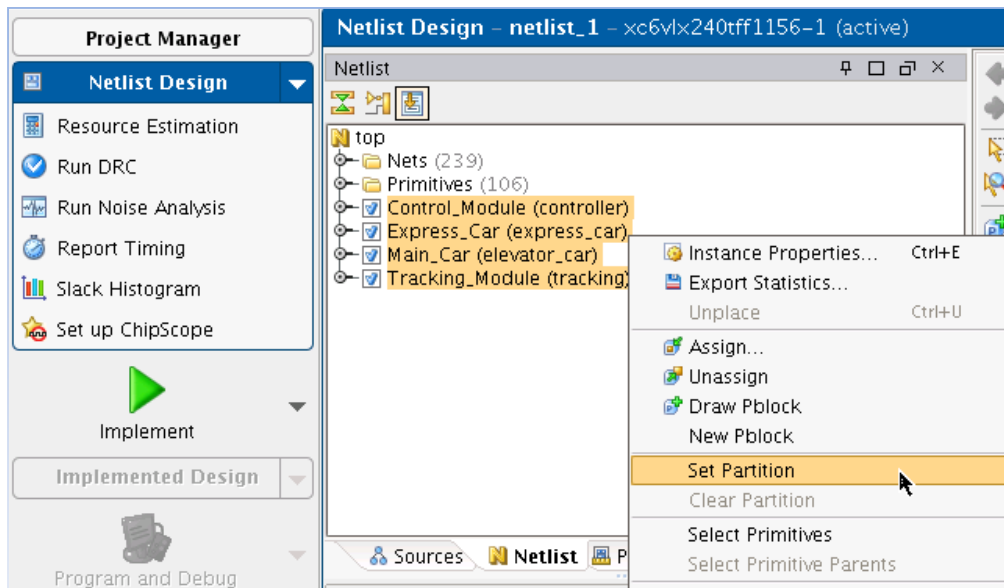

Figure 10: Setting Partitions in PlanAhead
3. Select the module instances that should be partitioned, right-click and select **Set Partition** from the popup menu (see Figure 10).